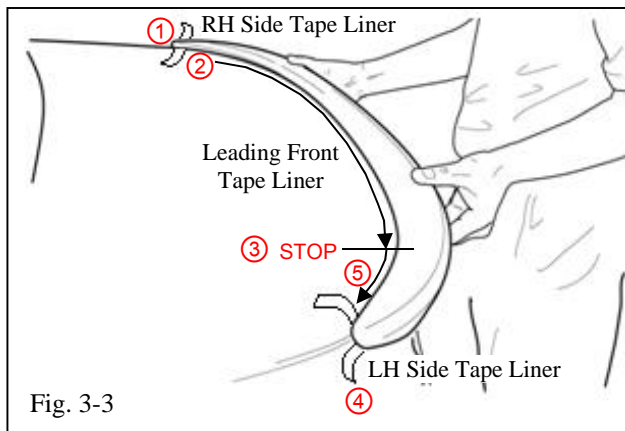

Fig. 3-3
- (g) Press spoiler into place seating the plastic clips into the 8.5 mm holes and outboard 9.0mm holes. (Fig. 3-3).
- (i) If a gap exists at the trailing edge of the spoiler, gently push the spoiler forward and remove either the LH or RH side tape liner from either side of the spoiler ① (Fig. 3-3).
- (j) Next, begin removing the leading front tape liner from the same side the side tape liner was removed ② (Fig. 3-3). Apply light pressure as the tape liner is removed.
- (k) Continue removing the leading front tape liner until it is $\frac{3}{4}$ of the way across the spoiler and stop ③ (Fig. 3-3).
- (l) Remove the final side tape liner ④ (Fig. 3-3).
- (m) Remove the remaining leading front tape liner ⑤ (Fig. 3-3).